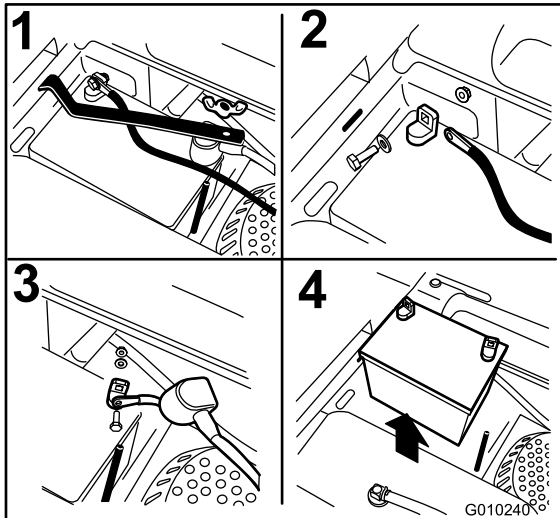

Figure 41
3. Remove the wing nut securing the battery clamp (Figure 41).
4. Remove the clamp (Figure 41).
5. First disconnect the negative battery cable (black) from the negative (-)(black) battery terminal (Figure 41).
6. Slide the red terminal boot off the positive (red) battery terminal and remove the positive (+)(red) battery cable (Figure 41).
1. Position battery in the tray with the terminal posts opposite from the fuel tank (Figure 41).
4. Secure the cables with 2 bolts, 2 washers, and 2 locknuts (Figure 41).
6. Install the clamp and secure it with the wing nut (Figure 41).